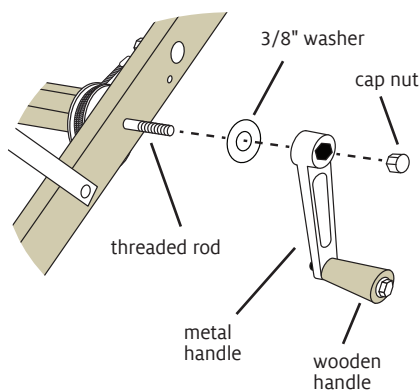

FIGURE 3: INSTALLING THE WARP BEAM CRANK HANDLE
12. The warp beam crank handle attaches to a threaded rod on the inside right leg (Figure 3). Locate the washer, cap nut, and the warp beam crank handle in the accessory pack. Place the 3/8" washer and then the metal handle on the rod, with the wooden handle facing out. Secure with the 3/8" cap nut.